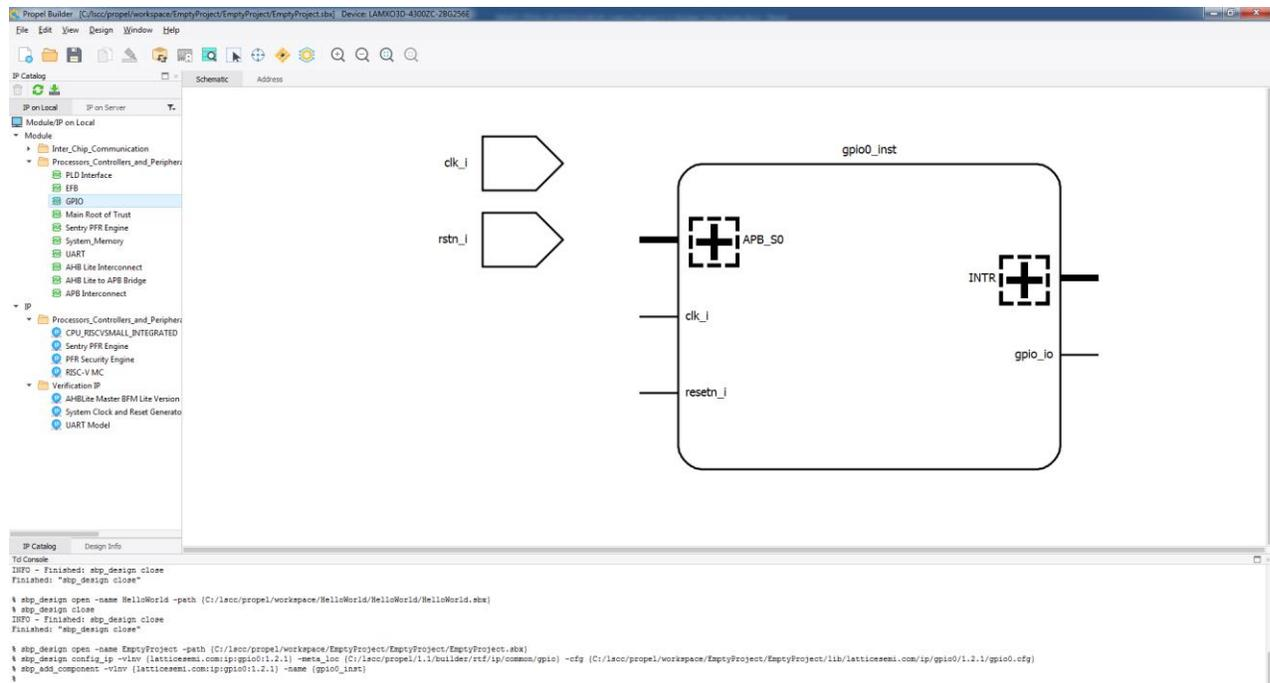

Figure 2.19. Propel Builder Schematic View Shows Module Instance
- Click **OK**. The schematic block for the module appears in the **Schematic** view (Figure 2.19).